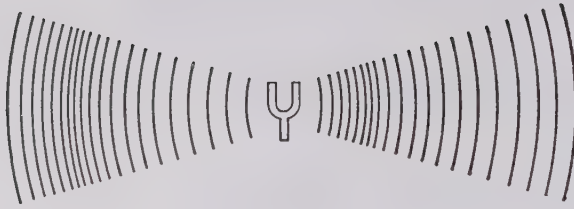

Figure 1. Tuning fork produces signal when struck, by vibrating at its resonant frequency.
- (1) Musicians sometimes use a tuning fork (fig. 1) to obtain a sound of a certain frequency. When this is struck, it vibrates against the air molecules, displacing the air around it at a frequency determined by its size. The waves of air strike the eardrums of the listener, causing them to vibrate at the same frequency, and produce the sensation of sound.
- (2) The energy that has been imparted to the fork by the force of the original blow is used up gradually in moving